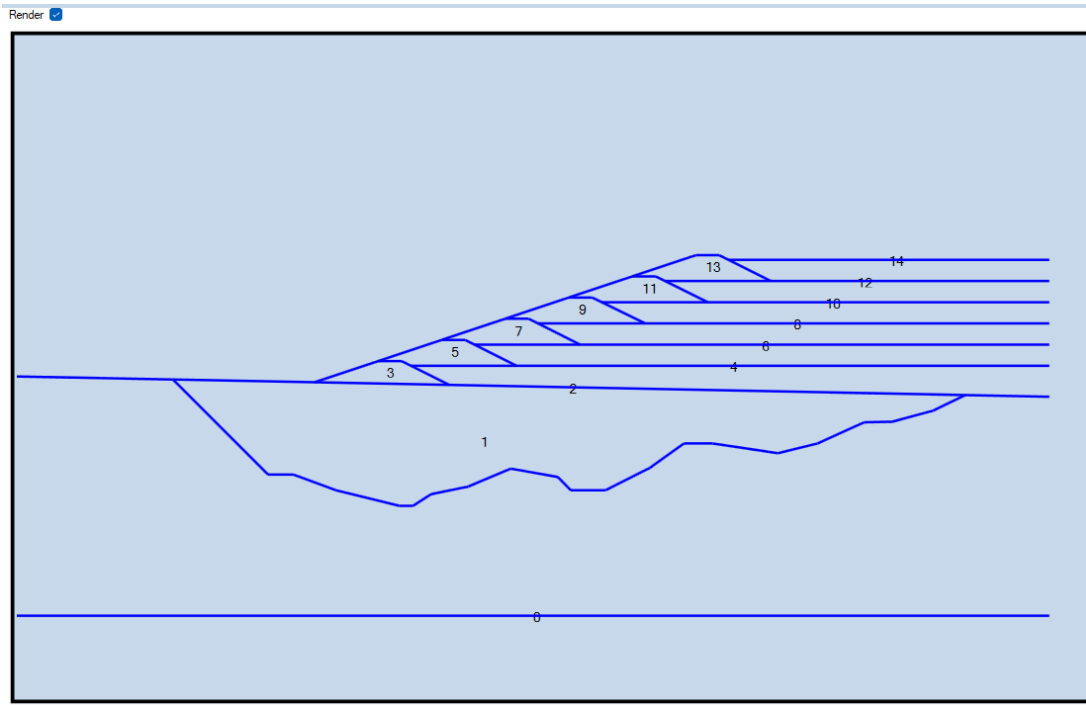

Figure 38: 2D Plain Strain Geometry in Render Area.
- **Analyze:** Runs the analysis of either the CAD or Text file, and display the image shows in Figure 38.